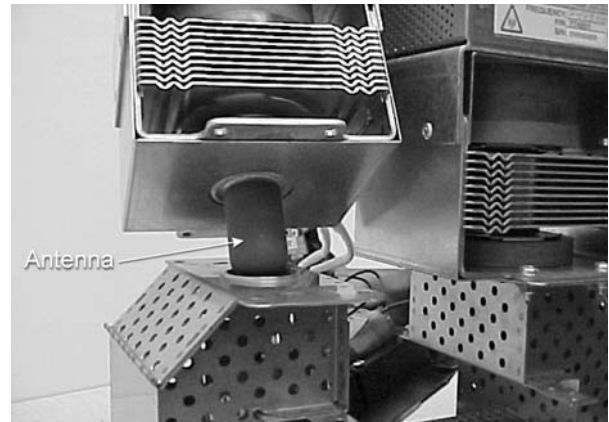

Figure 4-20 Install the Magnetron
1. See Figure 4-20. Inspect the gasket around the antenna of the new magnetron, making sure it is smooth and free of debris.